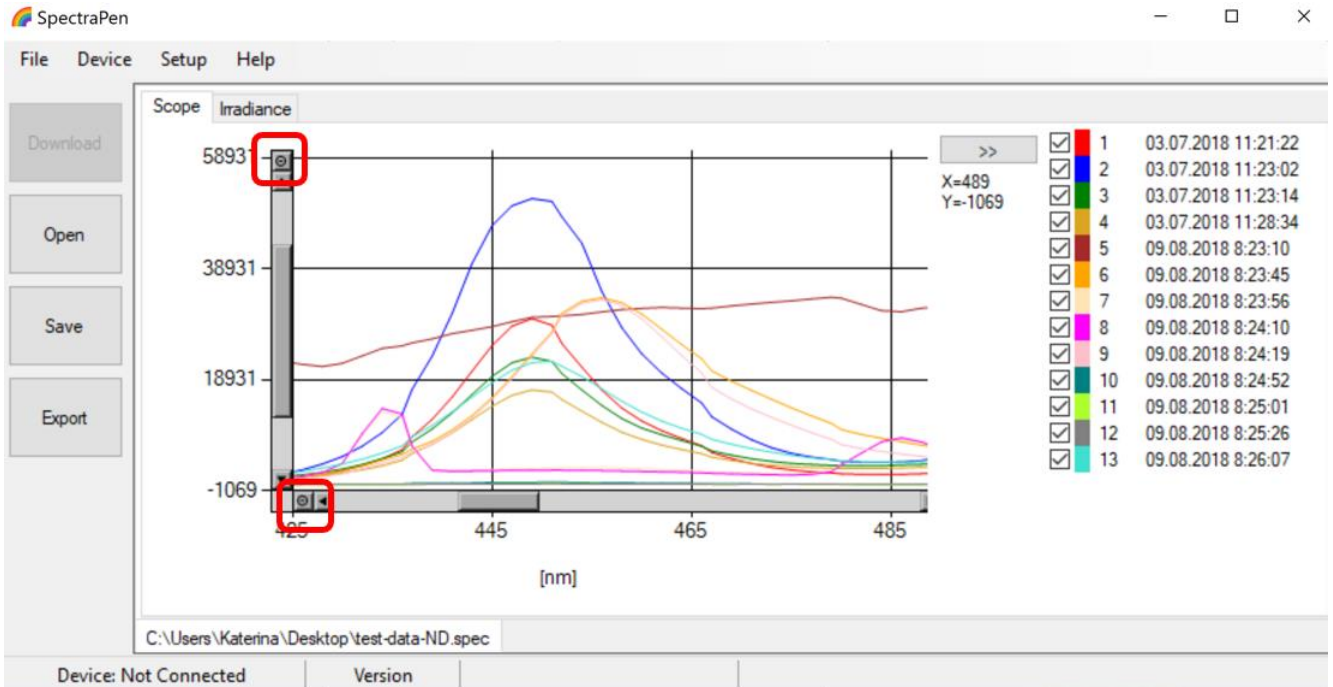

Fig. 27 Zoom function.
9. To **zoom in on the data displayed in the graph** select an area of the displayed graph (Fig. 27). To reverse these steps and return to original display use minus icon in the corners of the zoom area marked with red rectangles in Fig. 27.